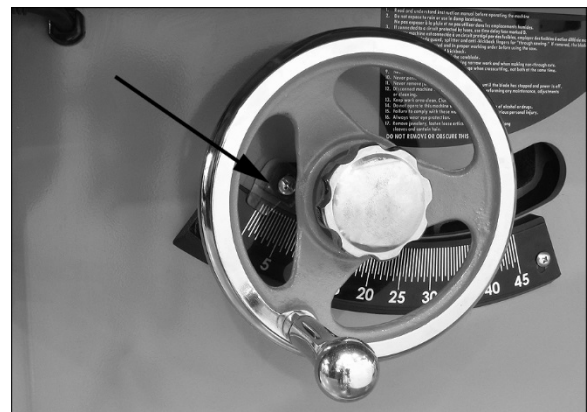

Figure 21
6. Check pointer position (Figure 21). If needed, loosen screw and adjust pointer to zero. Retighten screw.